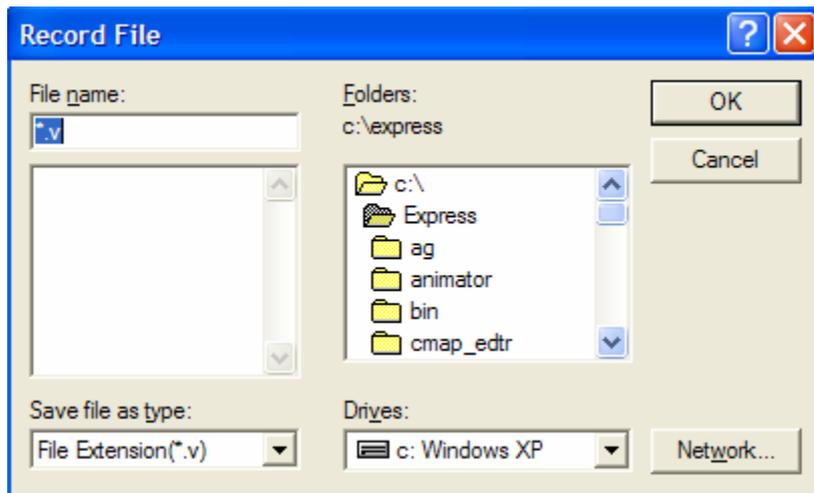

Figure A.3: Record File Pop up Window
- From the **Journal** menu on the Network Editor menu bar select **Record**. The **Record File** pop up browser window will be displayed as shown in Figure A.3.